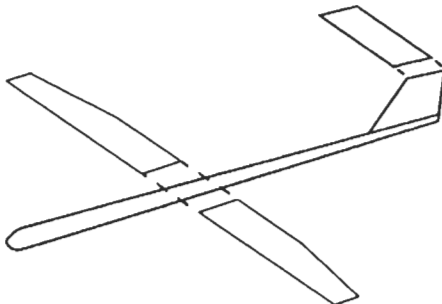

Figure 5 - Horizontal stabilizer
7. The last part is the horizontal stabilizer; it sits atop the vertical stabilizer or rudder. From the top of the rudder, draw a box that is 5/8" x 2 1/2". Note that the center of the stabilizer is attached at the top of the rudder. Draw in the box as shown. (See Figure 5.)